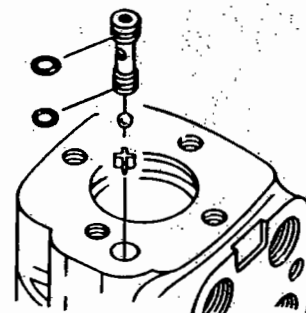

Figure 12A
- 5 Install set screw (not used on units with integral column, see Fig. 12A). Use a 1/4" allen wrench to torque set screw to 100 inch pounds. To prevent interference, make sure top of set screw is slightly below housing mounting surface.